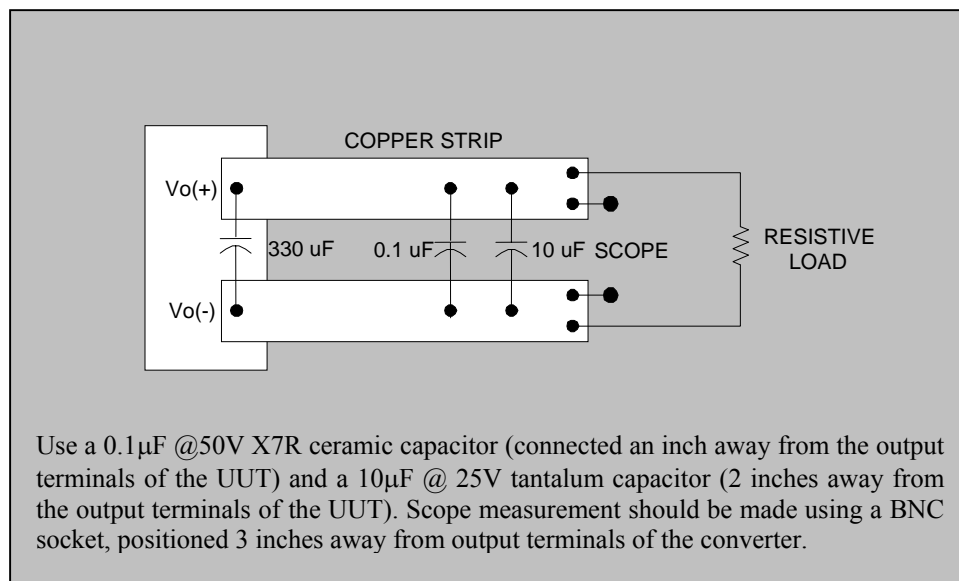

Figure 2. Peak to Peak Output Noise Measurement Setup.
- See Figure 2 for the Output Ripple and Noise Test Measurement Setup.